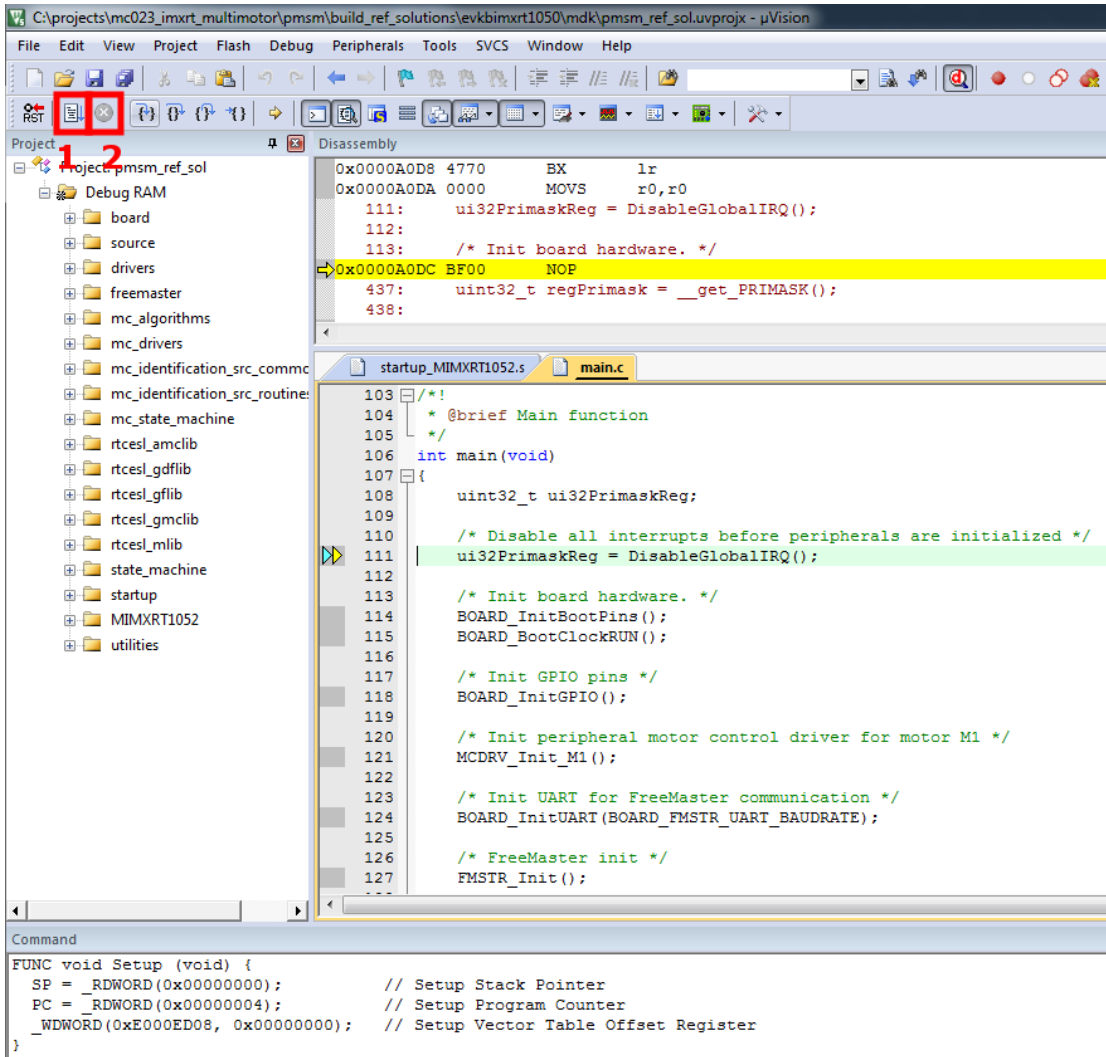

Figure 17. Keil debug workspace
5. As shown in Figure 17, the layout is switched to the debugging mode.
- To run the application, press the “Run” button (Point 1 in Figure 17).
- To pause the running application, press the “Pause” button (Point 2 in Figure 17).
- As shown in Figure 17, the layout switches to the debugging mode. The debugger does not perform reset; it just connects to the running target.